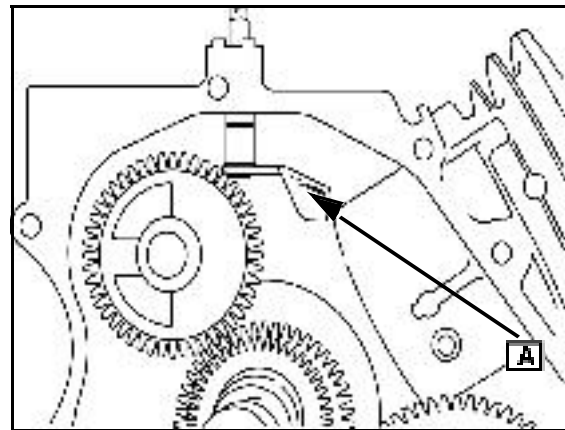
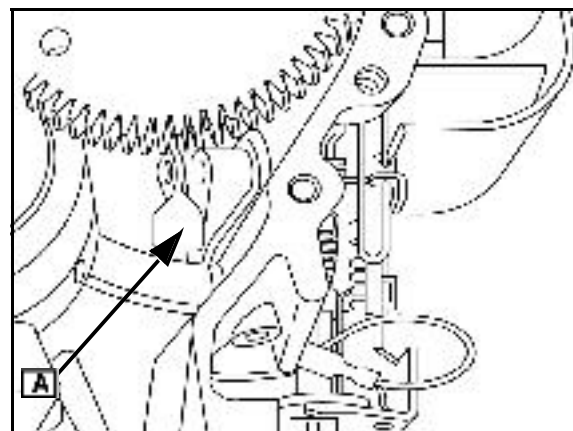
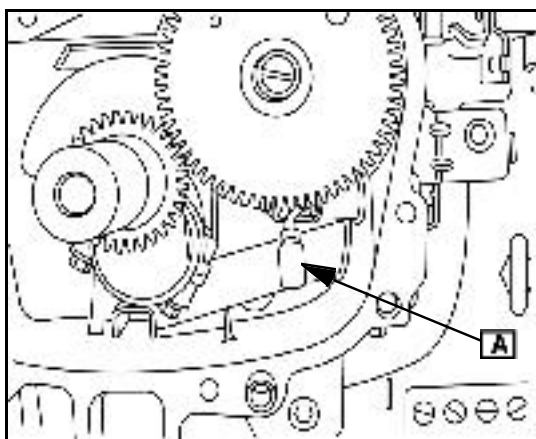

Fig. 27
Fig. 28
Fig. 26
2. Slide governor crank ([A] Fig. 26) up through the bushing and position as shown in the appropriate illustration.
CAUTION: Ensure that governor crank is in the position illustrated. (Fig. 26) (Fig. 27) and (Fig. 28) If it is not, proper governor adjustments cannot be made and will result in over-speeding and engine damage.